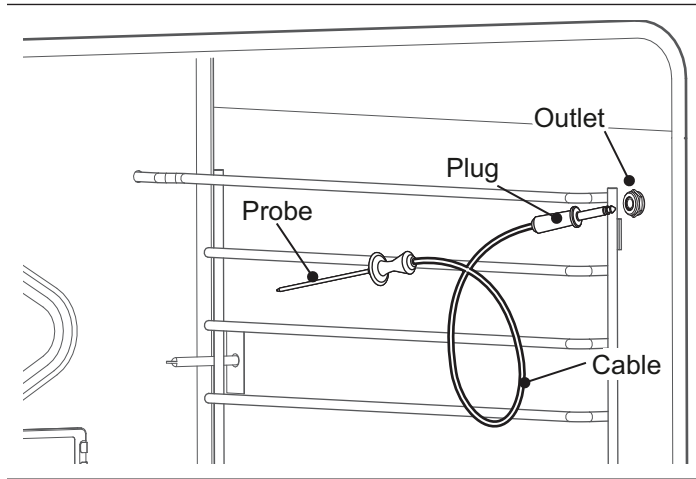

Figure 28: Meat Probe
1. Locate the outlet in the oven (Figure 28).